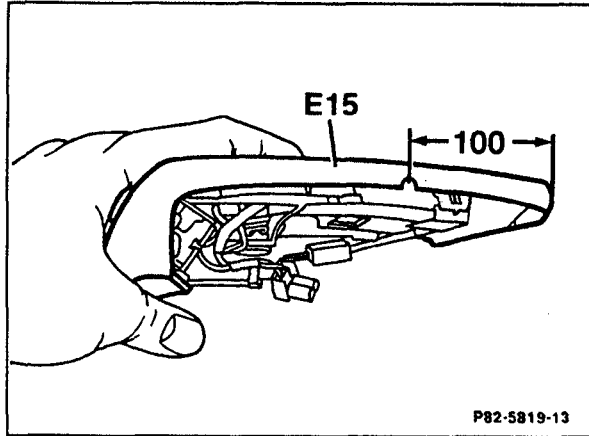

Figure 12
2. Measure back 100 mm and cut a 3.5 mm semicircular opening into the driver's side of the housing to accommodate the microphone wire (Figure 12).